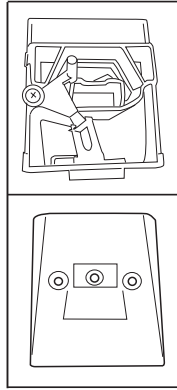

Fig. 18
- Clean the hopper, both inside and outside, to remove any obstructions at the three holes (**Fig.18**)